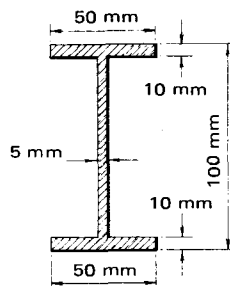

Fig. 1.51
- Find the mass of the I-section shown in Fig. 1.51 if its length is 1.2 m. The density of the metal is  $7750 \text{ kg/m}^3$ .